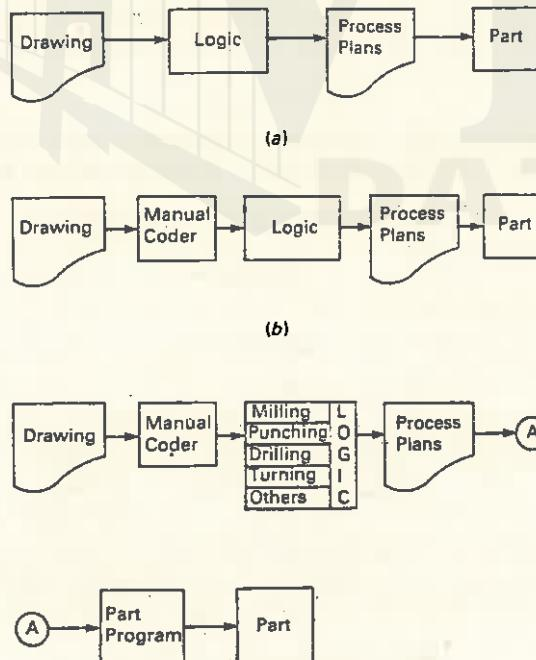

Fig. 6.9. Automated Process Planning Systems
- A completely automated process planning system would eliminate all human effort between the preparation of an engineering drawing and a complete process plan for every manufacturing operation. Schematically, the system would correspond to Fig. 6.9(a). The block labeled LOGIC
- A less automated system is shown in Fig. 6.9 (b). This system needs human assistance to code the engineering drawing data. Thereafter, the system is fully automated.
- In Fig. 6.9 (c), a still less automated system is shown. For this arrangement, a man must select the process as well as interpret and code the drawing information.